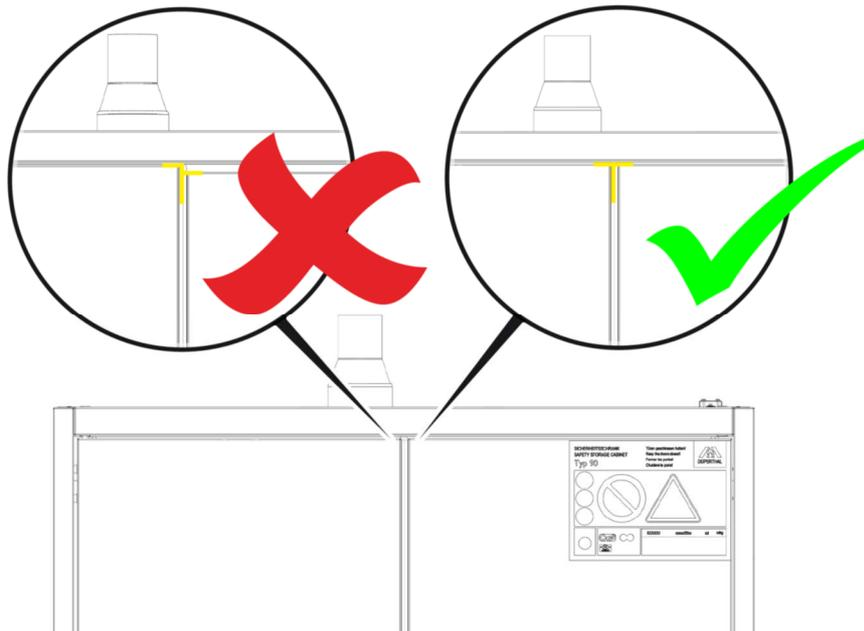

Fig. 15: Checking alignment
- ➔ Check the alignment of the safety storage cabinet (Fig. 15).